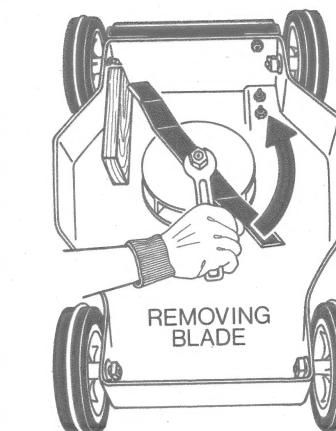
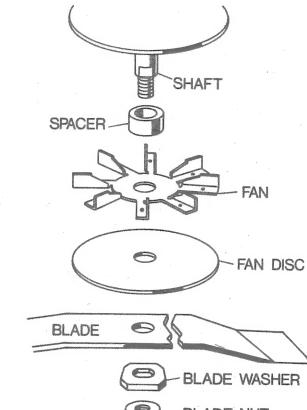

FIGURE 13
FIGURE 14
- (1) UNPLUG MOWER!
- (2) Wear gloves and place a piece of 2 x 4 wood in the position at back end of mower shown in Figure 13.
- (3) Push blade end against wood to keep blade from turning and turn blade nut with a wrench in direction of arrow to remove blade nut, blade washer and blade.
When installing a replacement or sharpened blade, be sure all parts are correctly positioned on shaft (Figure 14). Note that blade must be placed on shaft so that cutting edges are closest to ground. To tighten blade nut, place wood on opposite side of back end of mower to keep blade from turning. Tighten nut in opposite direction from arrow shown in Figure 13. Tighten nut firmly.